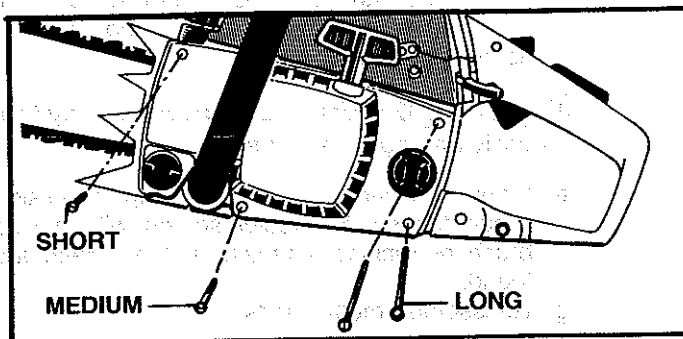

Figure 41
- Remove the four screws on the side of the fan housing. Figure 41.